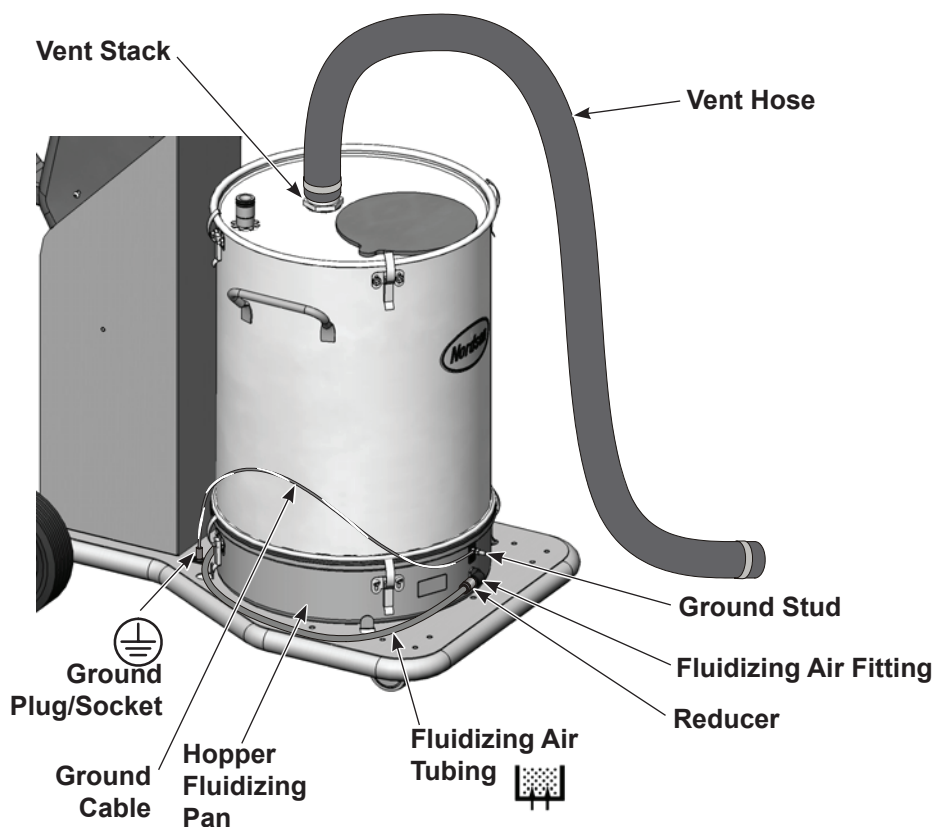

Figure 3-7 Hopper Installation on Mobile System Dolly
1. See Figure 3-7. Unclamp the hopper lid and remove the vent hose and hose clamps.
Connect the vent hose shipped with the hopper to the hopper lid as shown in Figure 3-7. Route the vent hose to a vent stub on the booth or collector module.